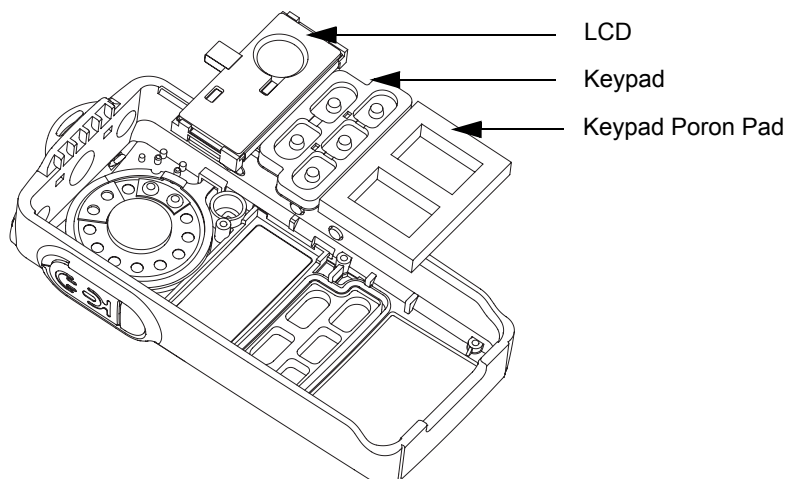

Figure 6-14. LCD and Keypad Reassembly
1. Place and align the LCD (38) onto the front housing.
2. Place and align the Keypad (43) onto the keypad slot. Apply force around the keypad and ensure the keypad sealing rib is perfectly seated onto the keypad slot. (Refer Figure 6-14).